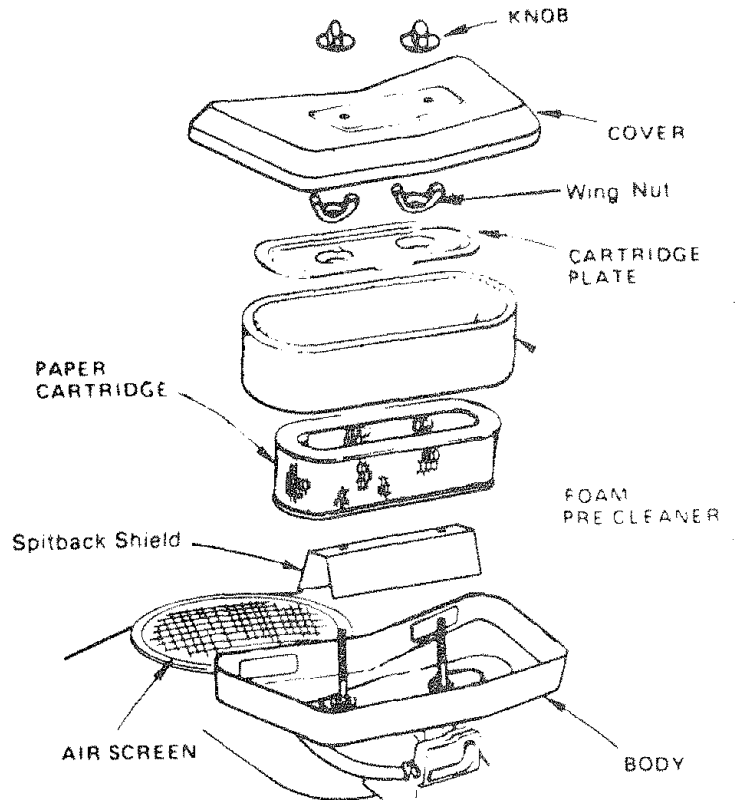

FIGURE 23
4. Clean Air Cleaner Foam Pre-Cleaner (Fig. 23)